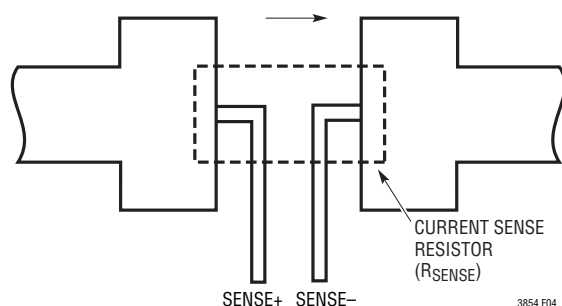

Figure 5. Kelvin Sensing R_{SENSE}
- 3) Are the SENSE– and SENSE+ leads routed together with minimum PC trace spacing? The filter capacitor between SENSE+ and SENSE– should be as close as possible to the LTC3854. Ensure accurate current sensing with Kelvin connections as shown in Figure 5. Series resistance can be added to the SENSE lines to increase noise rejection.
- 6) Keep the switching node (SW), top gate node (TG), bottom gate node (BG) and boost node (BOOST) away from sensitive small-signal nodes, especially from the voltage and current sensing feedback pins. All of these nodes have very large and fast moving signals and therefore should be kept on the “output side” (Pins 4,5,6 and 8) of the LTC3854 GND and occupy minimum PC trace area.